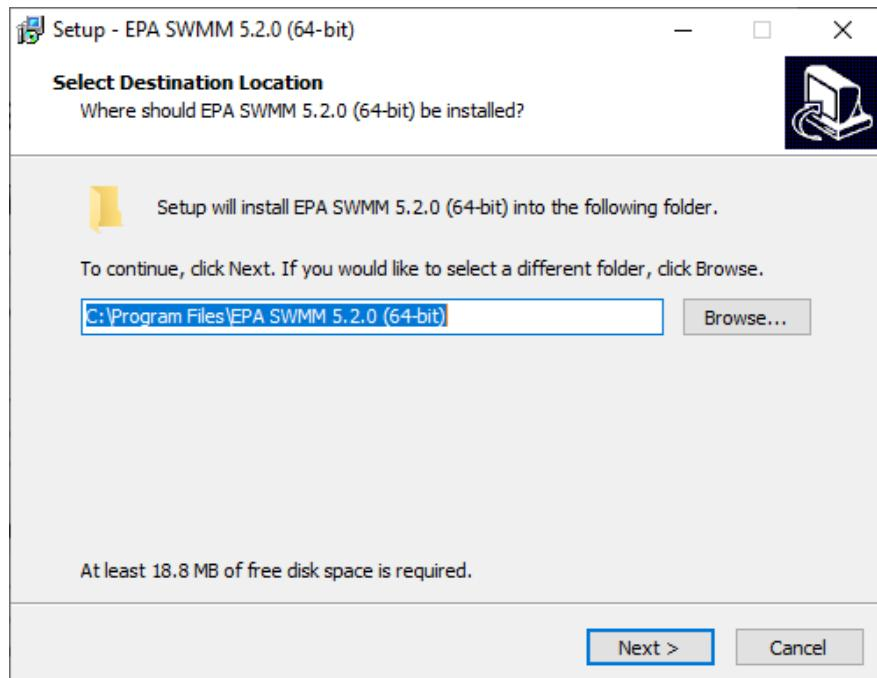

Figure 1-3. SWMM installation
- *Step 3:* Store the downloaded SWMM package on a personal computer (PC) or hard disk. Install SWMM by double click on the downloaded package.
- *Step 4:* Select the location for SWMM installation. Hit the “*Next*” button in some next steps to finish the installation (Figure 1-3).